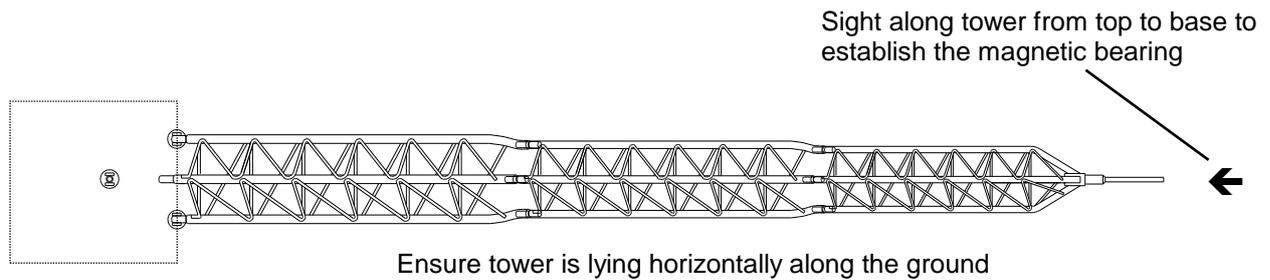

Figure 2-4 Sighting Along the Tower to Check the Magnetic Bearing
3. Sight along the tower, from the mast end towards the base as shown in Figure 2-4, above and, using a high quality compass, establish its magnetic bearing. It is recommended that you set up the wind sensor with respect to *true* north. Using an ordnance survey map (or other documentation) establish the declination angle for true north in your vicinity. Calculate true north by adding this angle to the magnetic bearing. For example, if the magnetic bearing is +37 degrees and the declination angle is +3 degrees, the adjusted bearing for true north is  $37+3=40$  degrees. (See Appendix A for a general discussion about true north and declination angles.) Make a note of this adjusted angle as you will need to use it to accurately set your wind direction sensor.